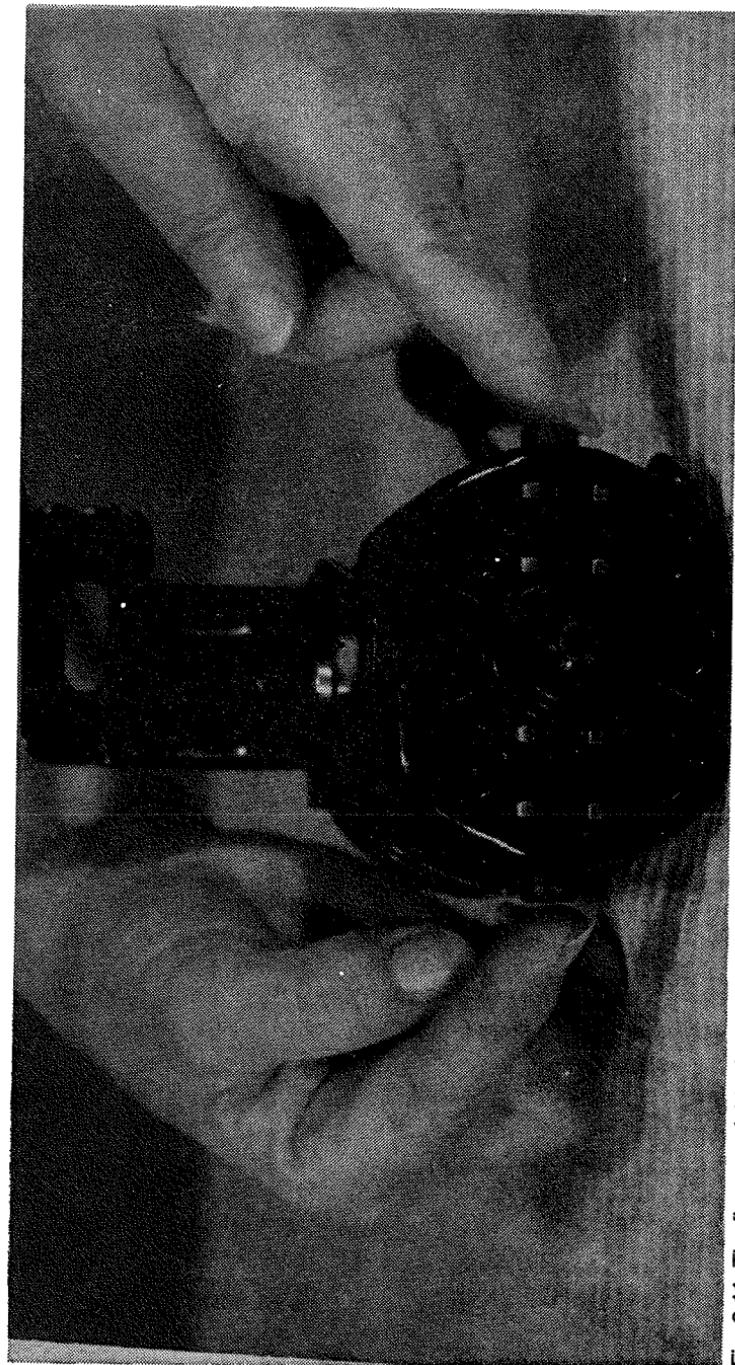

Fig. 2-11. The fingers point to the caps that cover the brushes on this motor from an old Bel-Air straight-stitch sewing machine.
- On some motors, the brushes are located under screw caps (Fig. 2-11). They are generally found in the end of the motor housing opposite the pulley, with the two caps 180 degrees from each other.